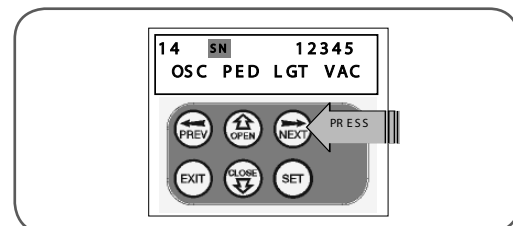

fig 27
2. Press NEXT to reveal Serial Number (**Fig. 27**).